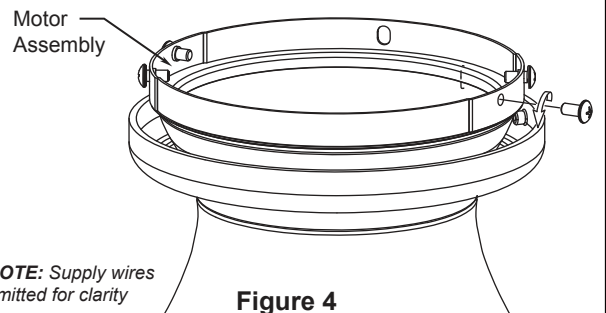

Figure 4
3. Remove the two screws from the motor assembly, retain the screws for later and loosen the remaining screws. (Figure 4)
4. Securely attach the 9-pin switch cup connector to the wiring harness socket within the upper LED plate assembly. (Figure 4)
- 4. To set the remote code with a small screwdriver or ball point pen (neither included), slide dip switches firmly up or down. (Figure 4)